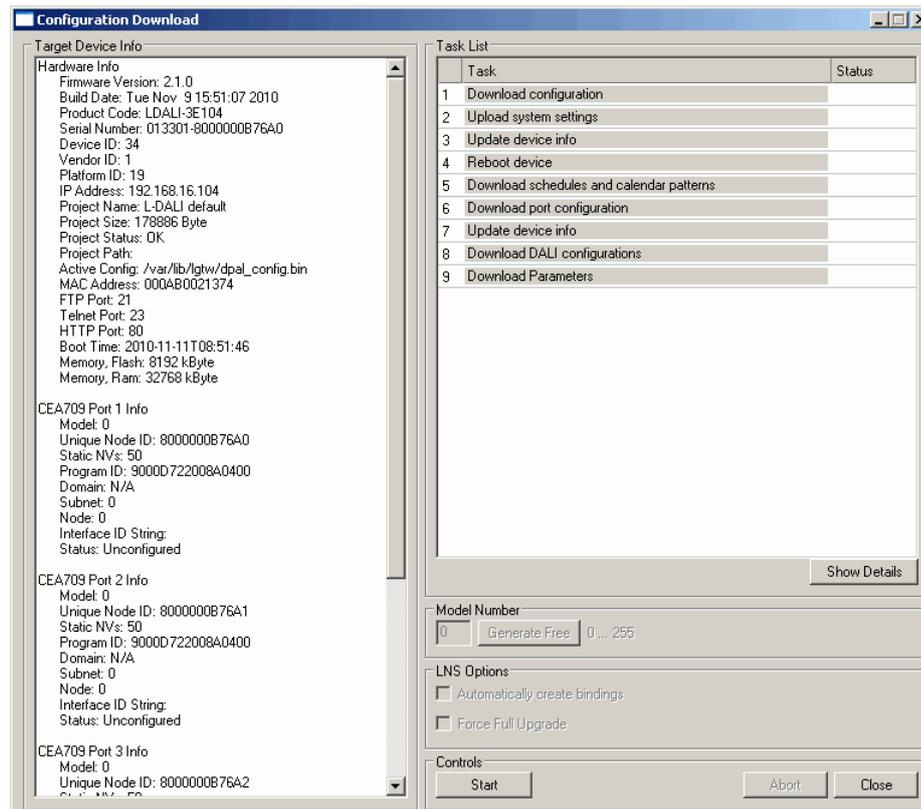

Figure 102: Configuration Download Dialog.
- After clicking on **OK** the **Configuration Download** dialog appears as shown in Figure 102. Click **Start** to start the download. Each of the actions is displayed in the **Task List** section of the dialog. The current progress is indicated by the progress bar below.